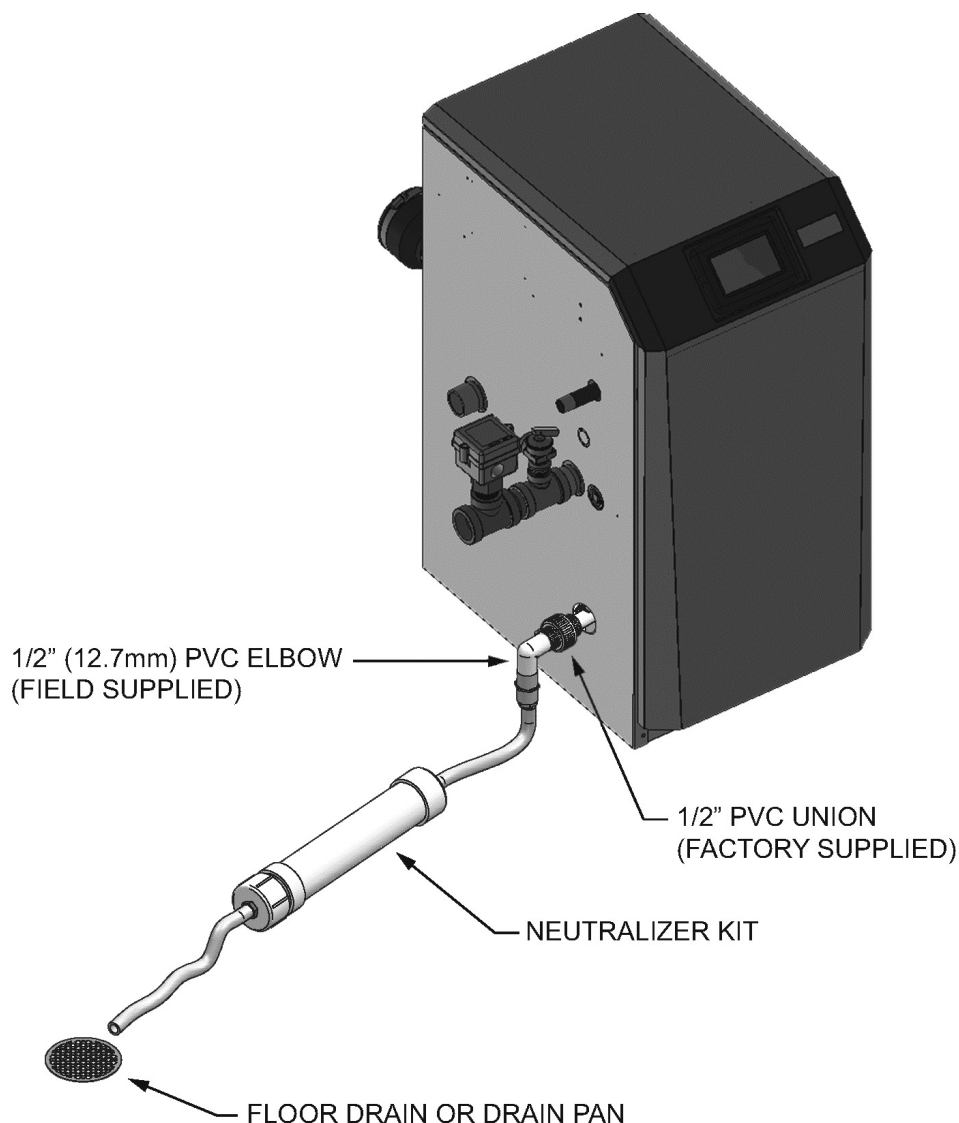

Figure 73. Condensate Disposal
2. The side of the water heater has a 1/2 inch PVC union for connection of a 1/2 inch PVC pipe (Figure 73).
A Neutralizer Kit (Figure 73) is available from the factory (100274677 for Models 150 - 500 and 100274676 for Models 600 - 800).
4. Install the 1/2 inch PVC elbow (field supplied) as shown in Figure 73.
6. Use only plastic tubing or piping as a condensate drain line (Figure 73).